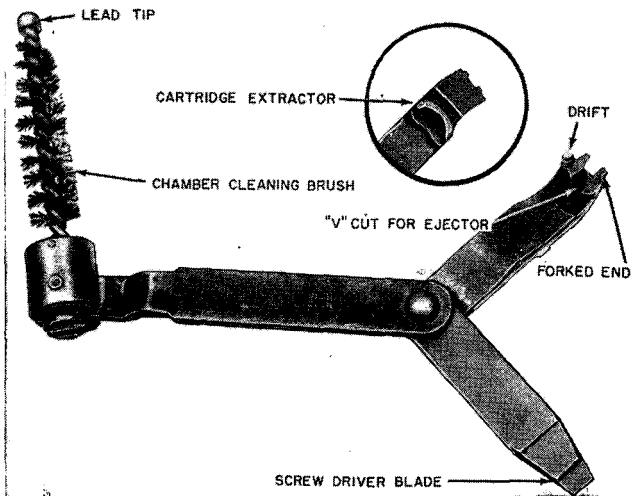

Figure 51. *The combination tool.*
d. *The combination tool* (fig. 51) consists of three parts, the chamber cleaning brush, the forked end, and the screwdriver blade. The movable screwdriver blade is used for tightening the